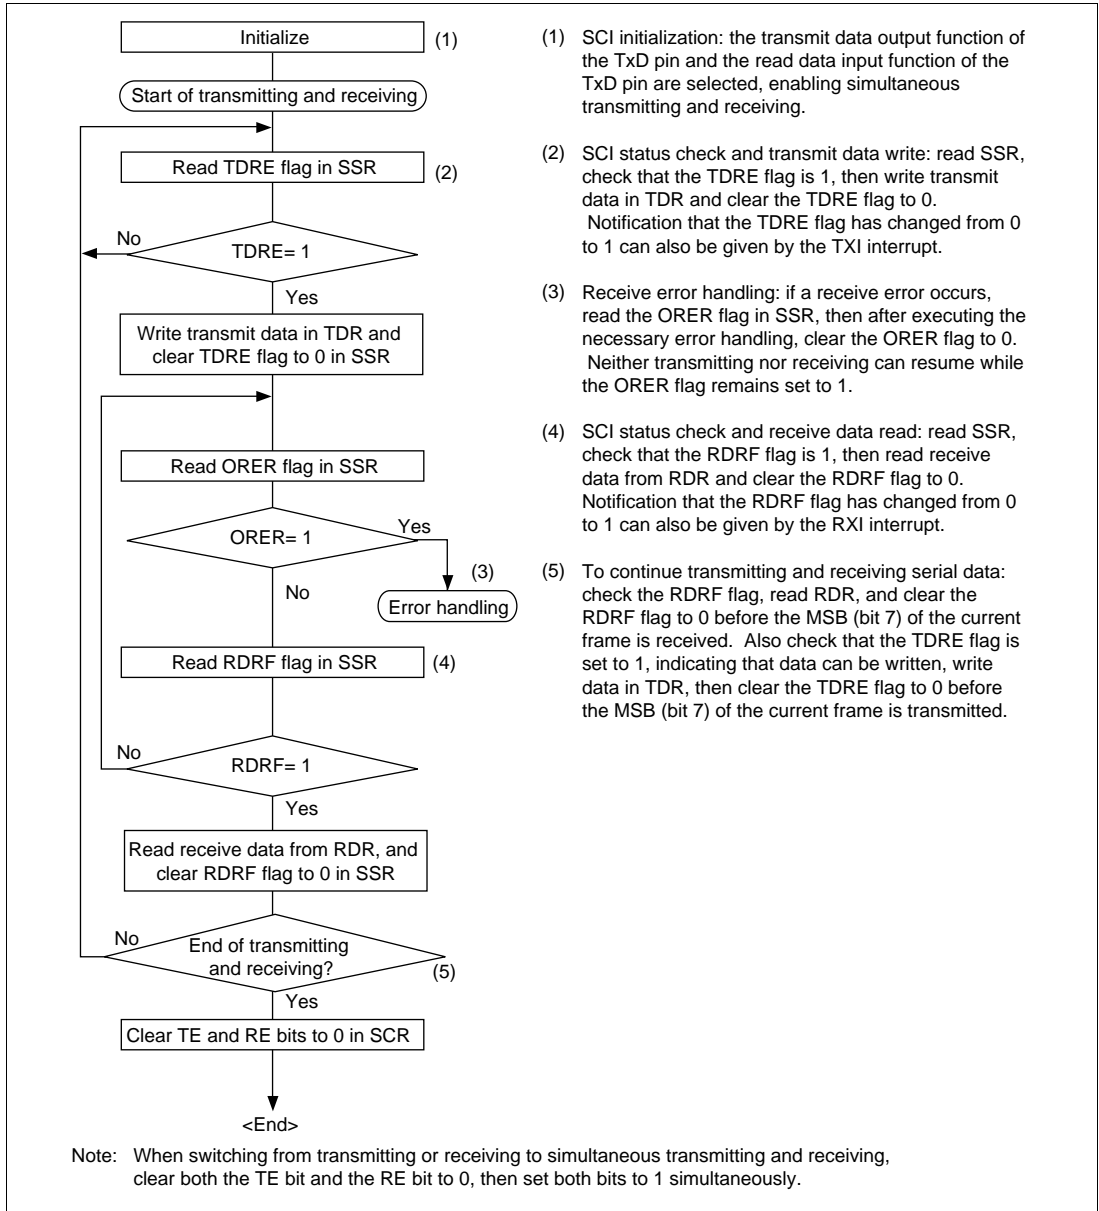

Figure 12.20 Sample Flowchart for Simultaneous Serial Transmitting and Receiving
- **Transmitting and Receiving Data Simultaneously (Synchronous Mode):** Figure 12.20 shows a sample flowchart for transmitting and receiving serial data simultaneously and indicates the procedure to follow.